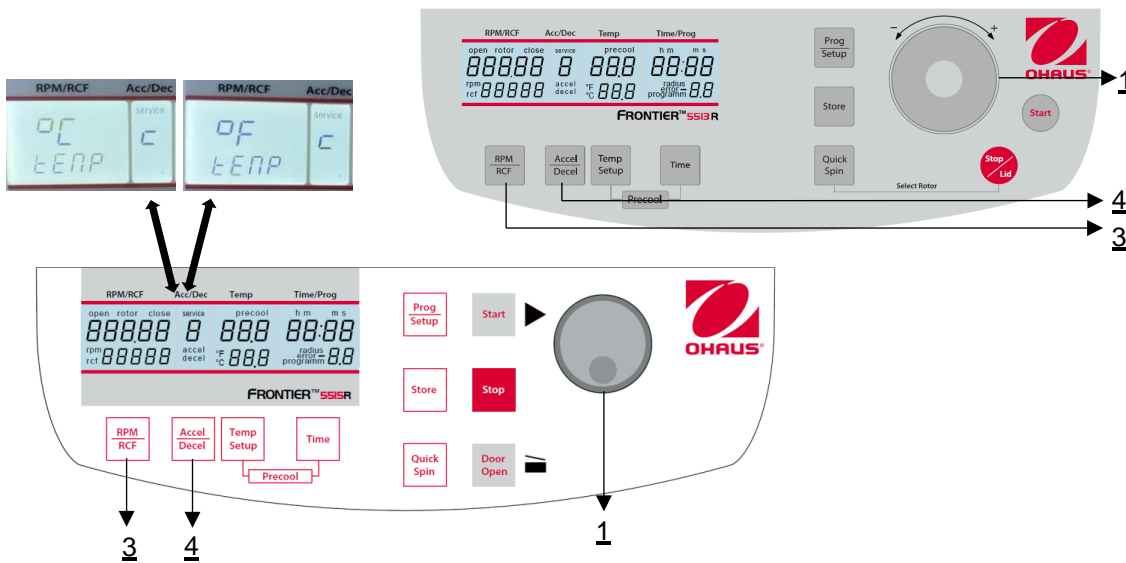

Figure 27
Proceed as described under point 4.1.1 to enter this program mode and then press the key **"Accel/Decel"** (4). In the display **"Acc/Dec"** (A-2) the word **"Service"** (M12) flashes. Now select the letter **"C"** with the adjusting knob / touch wheel (1). As a result, the words "CELSI/temp" appear in the display **"RPM | RCF"** (A-1). If you press the key **"RPM | RCF"** (3), the word **"°C"** flashes and you can change the display into Fahrenheit **"°F"** with the adjusting knob / touch wheel (1) (see **Figure 27**).